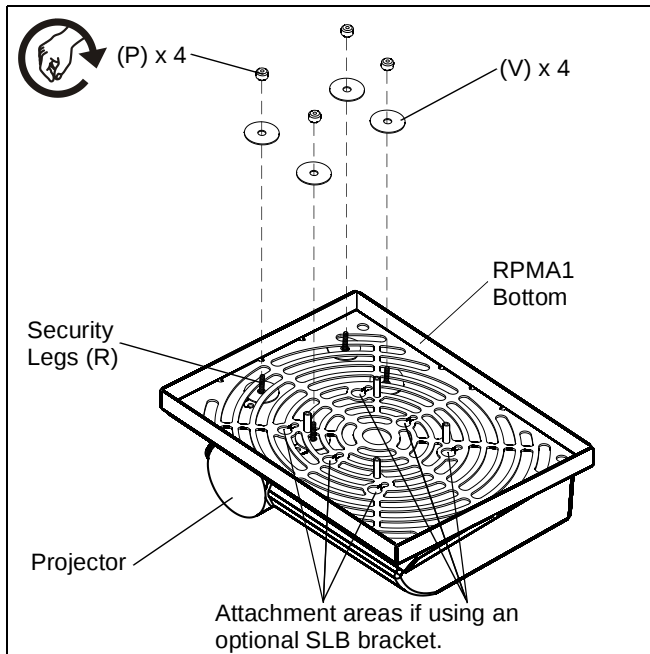

Figure 5
2. Remove the paper backing from the adhesive washers (V) and attach projector to RPMA1 bottom using adhesive washers (V) and thumbnuts (P) over the security legs (R). (See Figure 5)
NOTE: An optional SLB bracket may be purchased and used to attach projector to RPMA1. (See Figure 5)